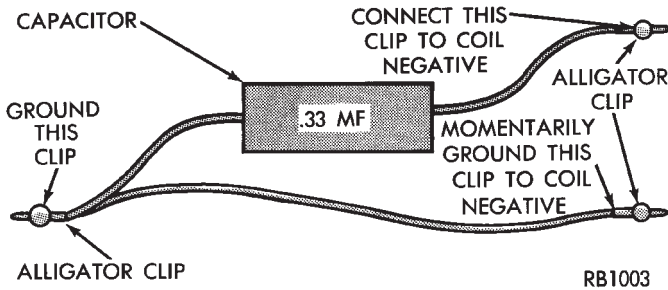

Fig. 9 Special Jumper Ground-to-Coil Negative Terminal
(6) Remove test lead from the coil positive terminal. Connect an 18 gauge jumper wire between the battery positive terminal and the coil positive terminal.
(7) Make the special jumper shown in (Fig. 9). Using the jumper, **momentarily** ground the ignition coil driver circuit at the PCM connector (cavity A-7). For cavity/terminal location of this circuit, refer to Group 8W, Wiring. A spark should be generated at the coil cable when the ground is removed.
(8) If spark is generated, replace the PCM.
(9) If spark is not seen, use the special jumper to ground the coil negative terminal directly.
(10) If spark is produced, repair wiring harness for an open condition.
(11) If spark is not produced, replace the ignition coil.